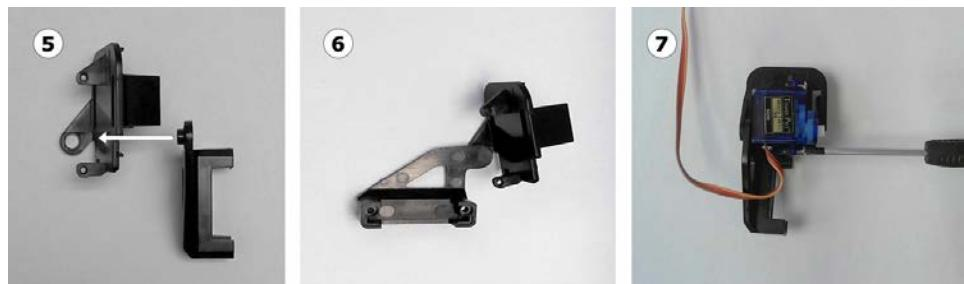

Figure 10.12 – Assembling the left arm and tilt plate
1. Line up the stud with the hole on the tilt plate, as shown in *Figure 10.12*.